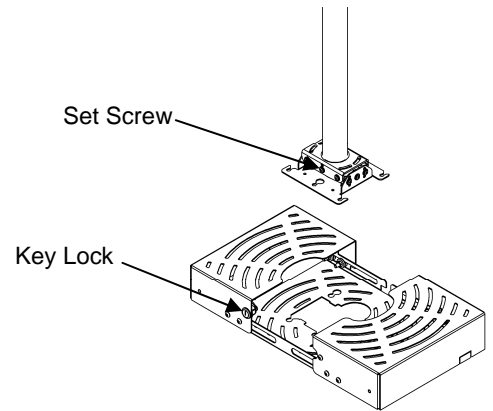

Figure 1. Align Set Screw & Key Lock
5. Align set screw of RPA with key lock of cage (see Figure 1).